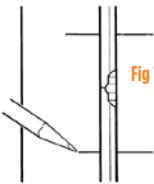

Fig 14 Transfer the markings across to the door jamb.
- Remove the plate and close the door until the latch touches the door jamb. Mark the position of the centre of the latch bolt on the door jamb (see Fig 13). With the door in the same position, transfer the marks for the top and bottom of the strike plate onto the door jamb, using a square draw lines across the door jamb coinciding with these marks (see Fig 14 & 15).